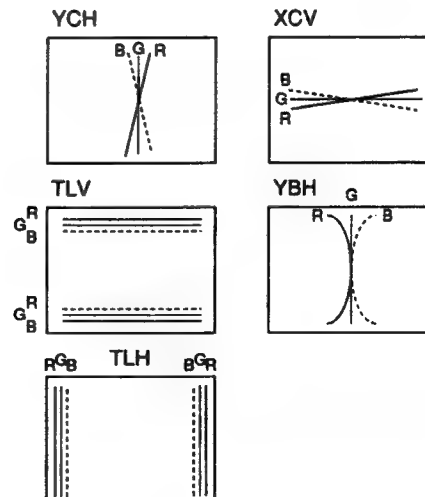

Fig. 3-28 Convergence compensation VR, coil, and compensator
3. When the nonconvergence of the TILT component is included in the horizontal convergence, make adjustment with the TLH compensator. (Fig.3-28)
3. When the nonconvergence of the TILT component is included in the horizontal convergence, insert the TLH compensator into the deflection yoke for adjustment. (Fig.3-28)
3. When the nonconvergence of the TILT component is included in the vertical convergence, insert the TLV compensator into the deflection yoke for adjustment. (Fig.3-28)